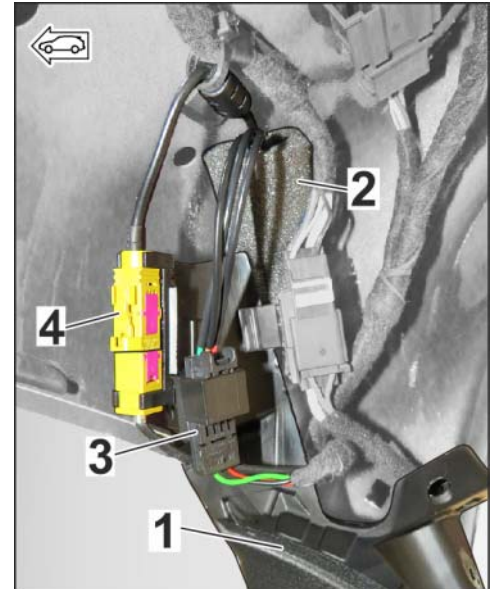

Figure 23
3.5.4 Install the center window frame trim and attach the plug / connector holder to the trim (see Fig. 5 and ⇒ *Figure 23*).
3.6 Connect electric wiring harness ⇒ *Figure 23*